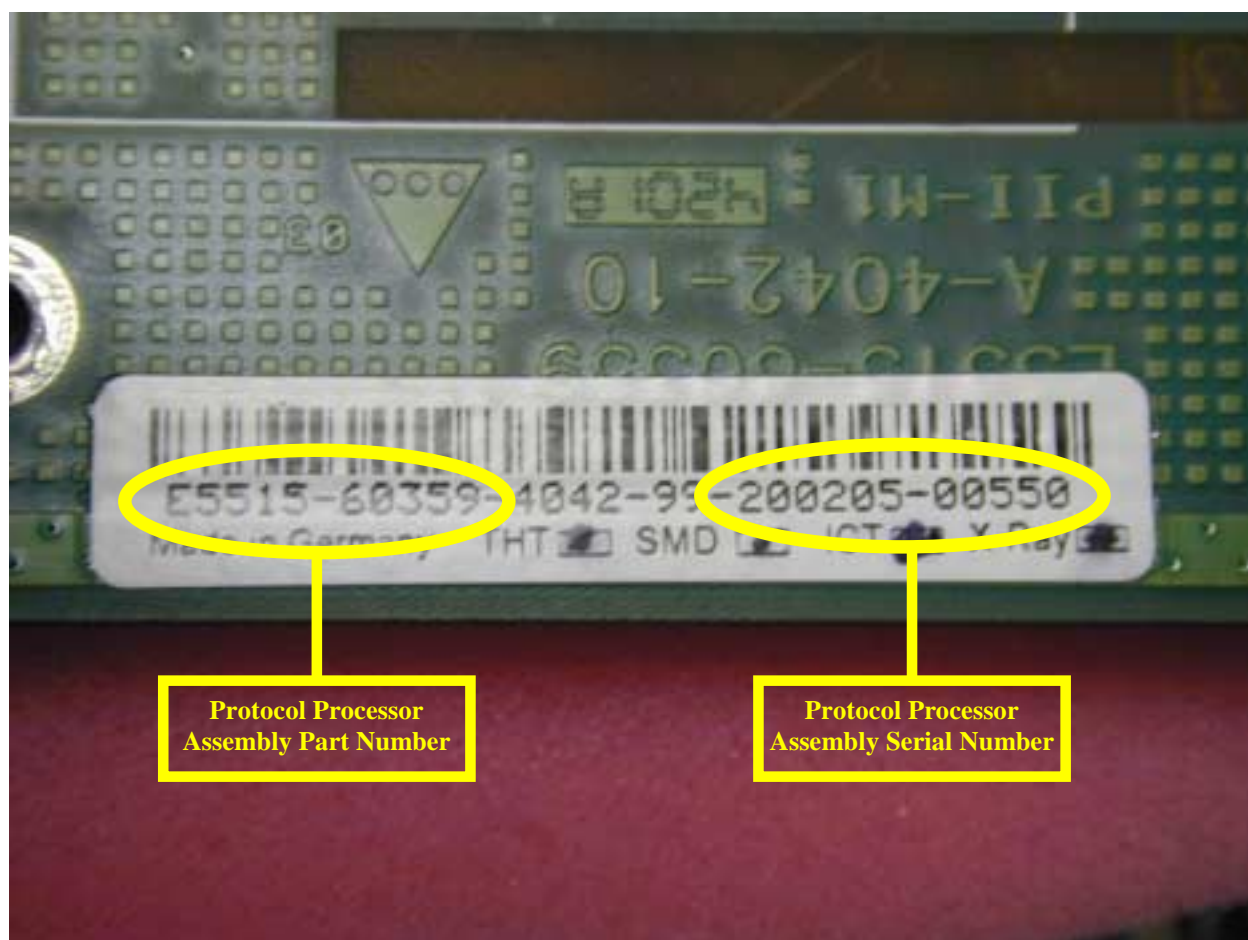

Figure 2
- Visual inspection of the board's label (see Figure 2).
Label inspection: Figure 2 shows a label on board part number E5515-60359 with board serial number 200205-00550, which corresponds to year 2002, 5th week, serial number 00550.